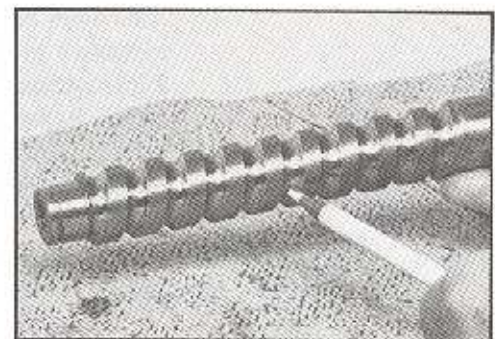
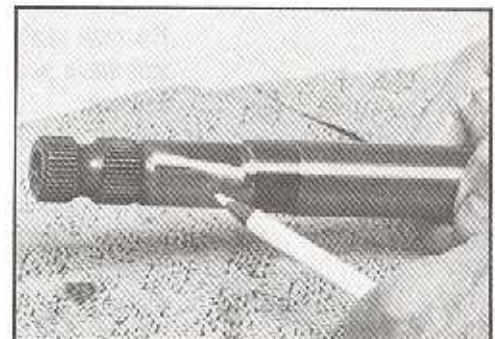

Figure 93
Figure 94
2. Inspect the worm shaft (25B) and the ball nut (25C) ball track grooves for brinelling or spalling. SEE FIGURE 93. If either condition exists, in either components, you must replace worm shaft and ball nut assembly (25). Visually inspect the worm shaft upper seal area near the serrated end for nicks, and run your fingernail edge across the sealing surface to detect steps. SEE FIGURE 94. Visually inspect the valve spool (18B) contact area of the worm shaft for discoloration from excess heat. If either of these conditions exist you must replace the worm shaft, ball nut, valve, rack piston, adaptor, upper cover assembly.